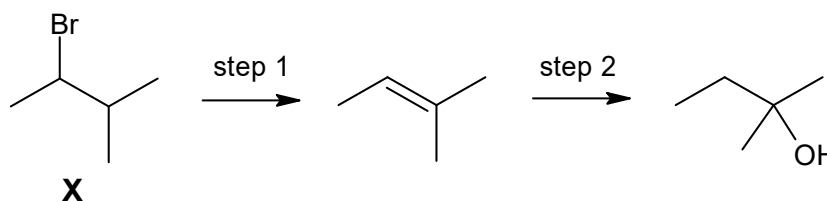

Fig. 4.1
- (b) Fig. 4.1 shows a 2-step synthesis to obtain 2-methylbutan-2-ol from **X**.
- (ii) Explain if each step in Fig. 4.1 is regioselective for the intended product. Your answer should refer to the relative stability of relevant products or intermediates.